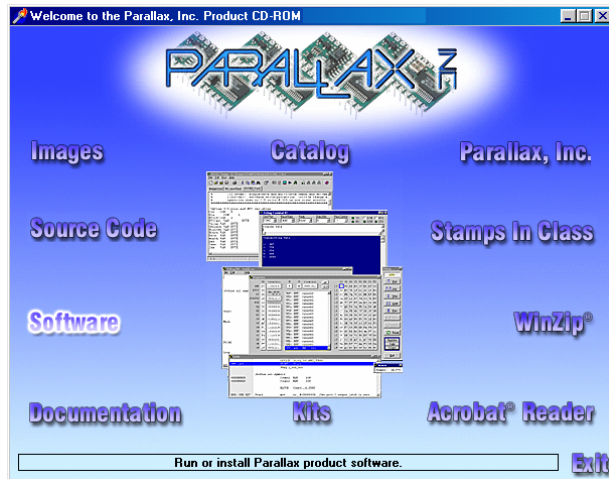

Figure 1-14
- ✓ Place the Parallax CD into your computer's CD drive. The Parallax CD Welcome application shown in Figure 1-14 should run as soon as you load the CD into your computer's CD drive.
- √ Click the *Software* link shown in Figure 1-14.